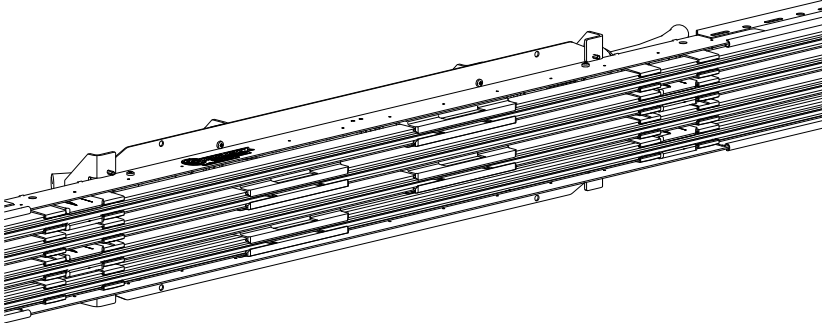
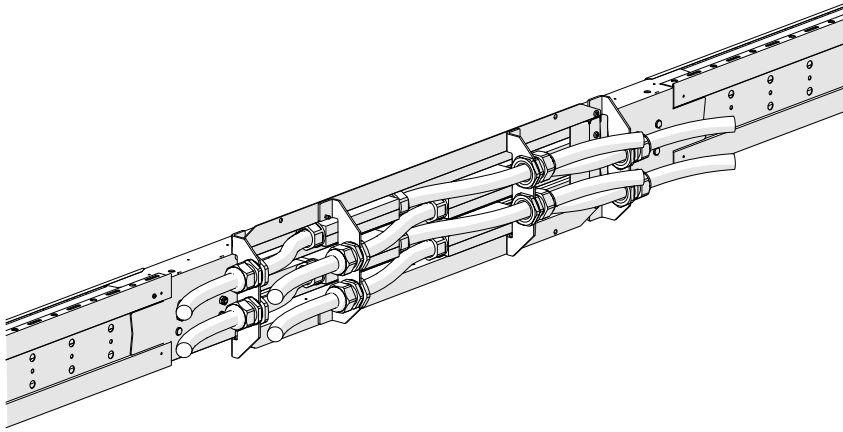

Fig. 49: Front view
Fig. 50: Rear view
8. Install all other conductor rail poles in the same way and remove the auxiliary consoles from the ProShell support profile (see Fig. 49 and Fig. 50).